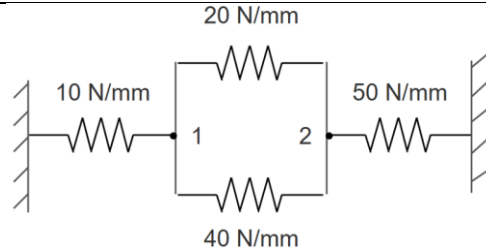

Figure 1
2. The spring system shown in figure 1 is loaded with a loads 10N and 20 N at points 1 and 2. If both loads are acting towards right, calculate the deformations of points 1 and 2 using the principle of stationary total potential.